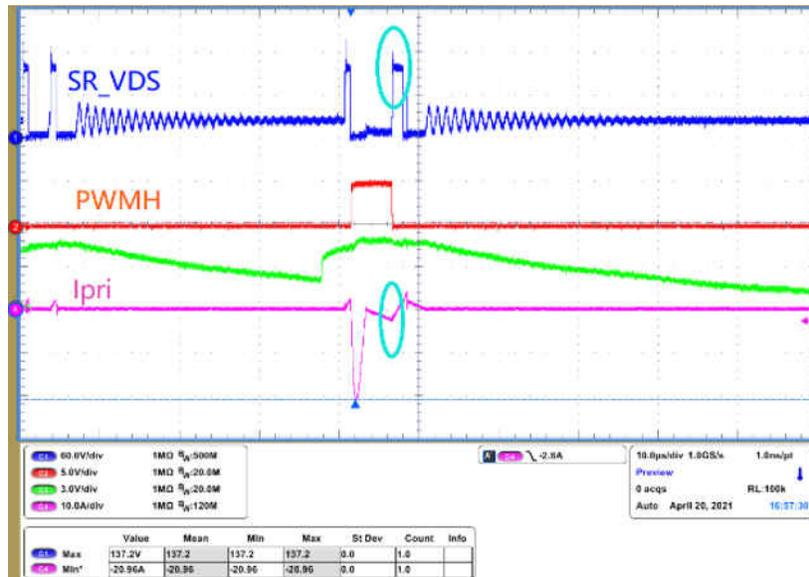

Figure 4-7. SR FET ZCS Turn Off
1. Re-calculate RDM pin resistor value, The R_{RDM} calculation equation shown in UCC28782 data sheet equation (11). If the actual value on the tested board is close to calculated value, minor increase RDM resistor until the user can see NON-ZCS turn off disappear, see Figure 4-7